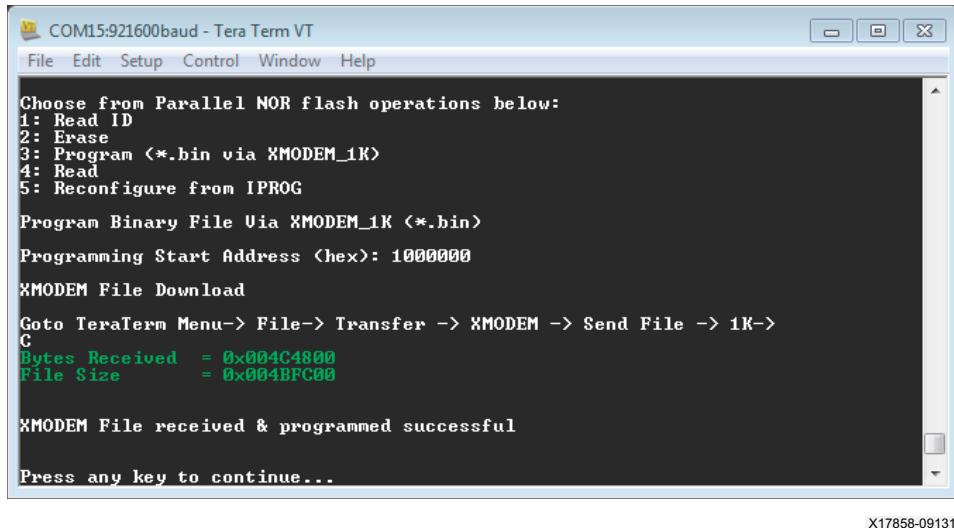

Figure 20: Programming Status
8. When the `update.bin` programming has successfully completed you will see the Tera Term window shown in Figure 20.